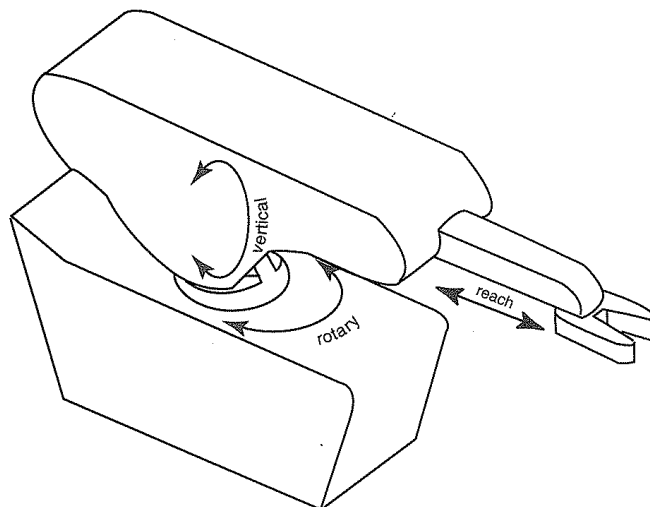

Figure 1: The Spherical Robot.
- (d) Referring to the **Figure 1**, illustrates the work envelope of this robot.